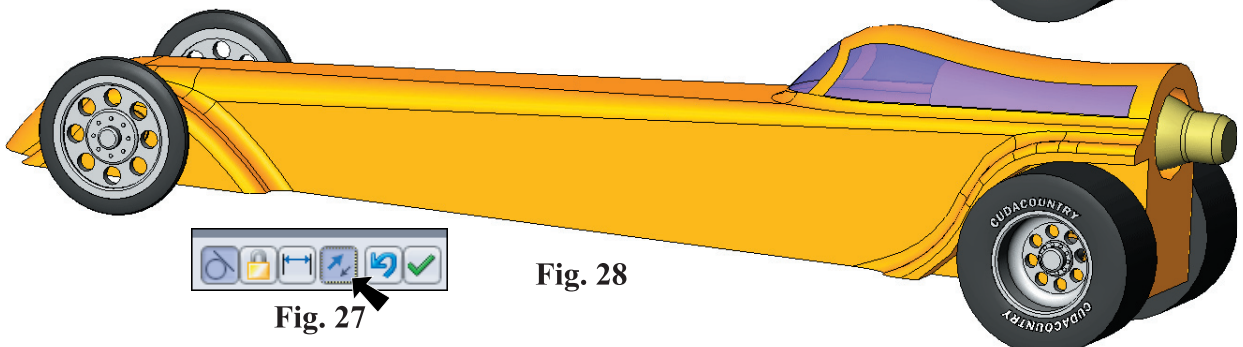
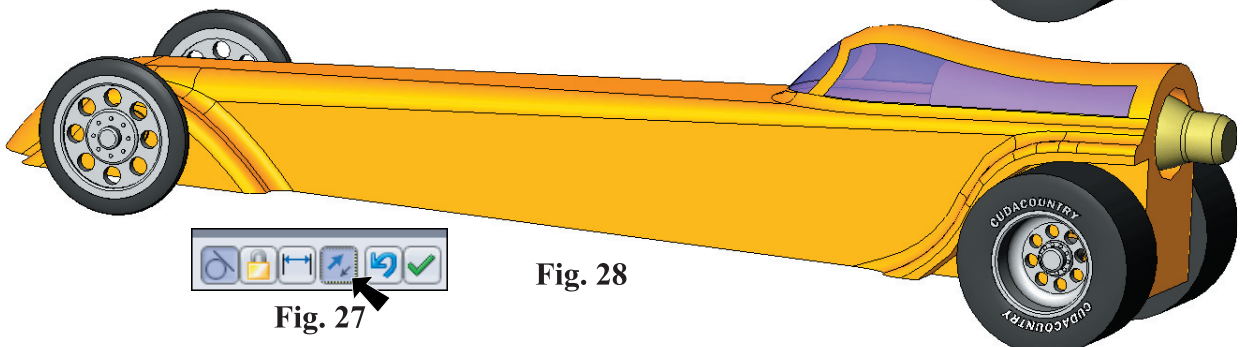

Fig. 27
Fig. 28
Step 7. The cartridge should extend out the rear of the body, Fig. 28. If in opposite direction, click **Flip Mate Alignment**  in the Mate pop-up, Fig. 27.